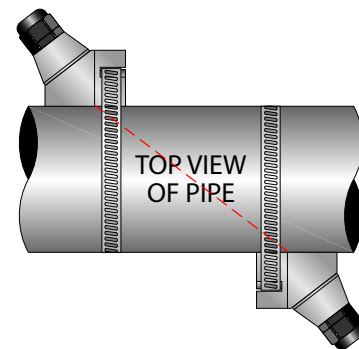

Figure 20: Z-Mount transducer placement
- Place the downstream transducer on the pipe at the calculated transducer spacing. See Figure 20. Using firm hand pressure, slowly move the transducer both towards and away from the upstream transducer while observing signal strength. Clamp the transducer at the position where the highest signal strength is observed. A signal strength between 5...98 is acceptable.